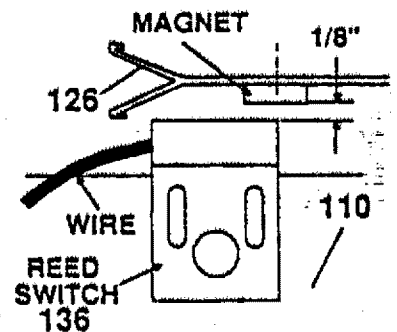

FIGURE 3
- c. Check spacing and alignment between MAGNET on left side of FRONT ROLLER (No. 126) and REED SWITCH (No. 136) on the TREADMILL FRAME (No. 110) - see FIGURE 3. The spacing must be 1/8" and the edge of the REED SWITCH must be aligned with the center of the MAGNET. Move REED SWITCH on TREADMILL FRAME.